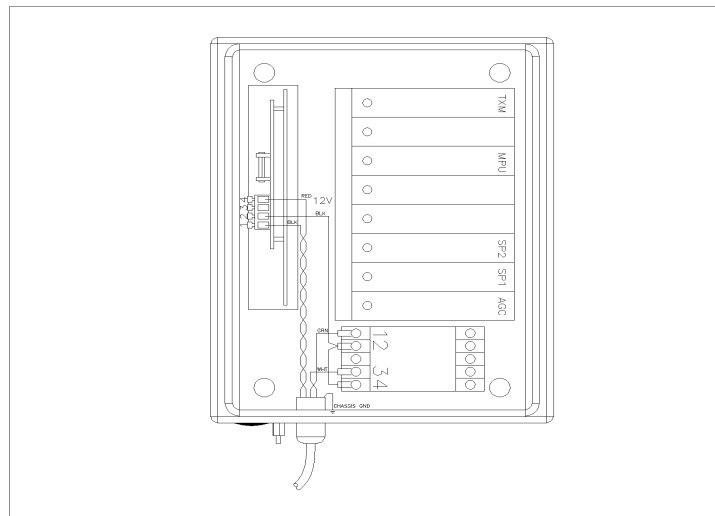

Figure 1-13. Precip ID Electronic Enclosure Circuit Card Location
- e. Open the electronics enclosure door (Figure 1-13).